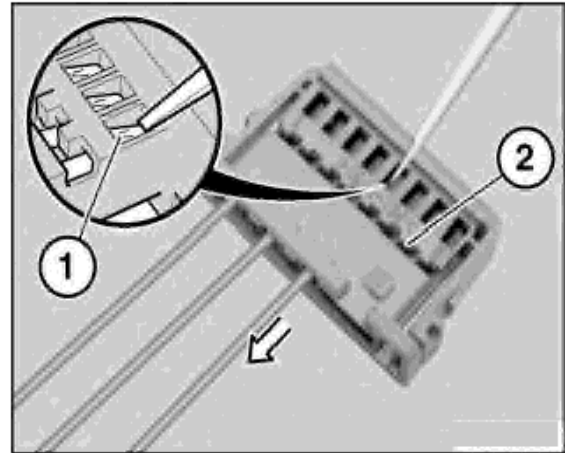

Fig. 17/1
- Hold down retaining hook in secondary lock (1) again and pull cable with socket contact (2) completely out of contact carrier (3). (Fig. 17/2)